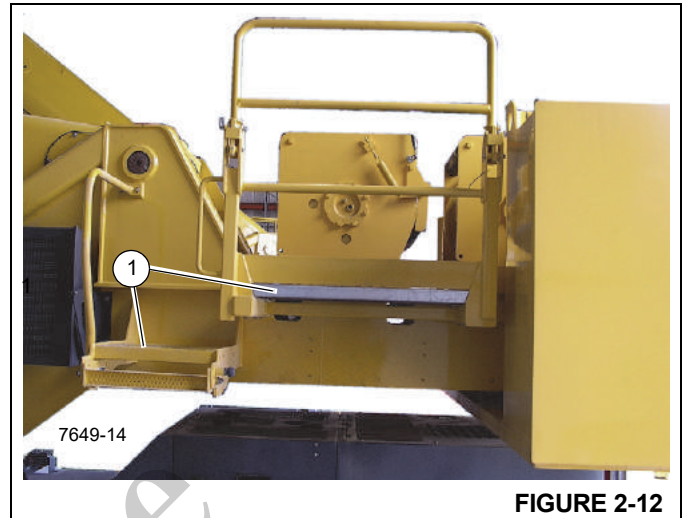

FIGURE 2-12
Use the hoist access platform (1) Figure 2-12 when working in the hoist area (Fixed counterweight units only).